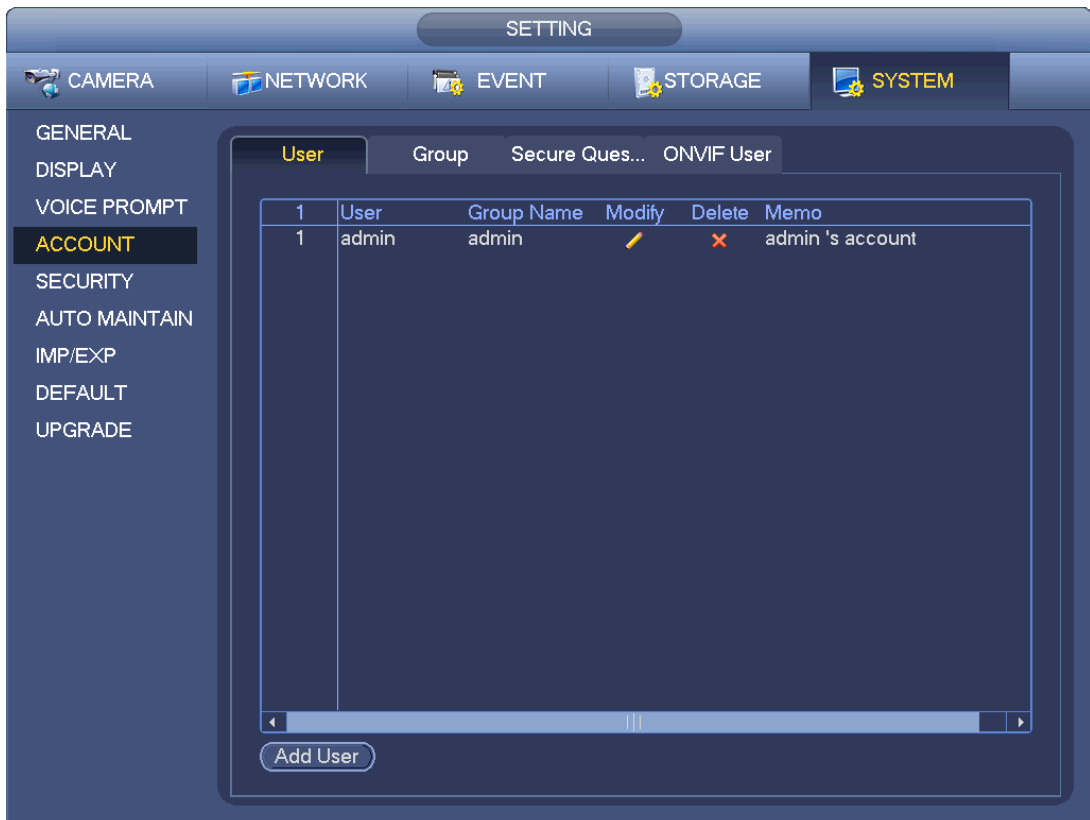

Figure 4-203
Enter user interface. See Figure 4-203.
- Step 2 Click Add user button in Figure 4-203.